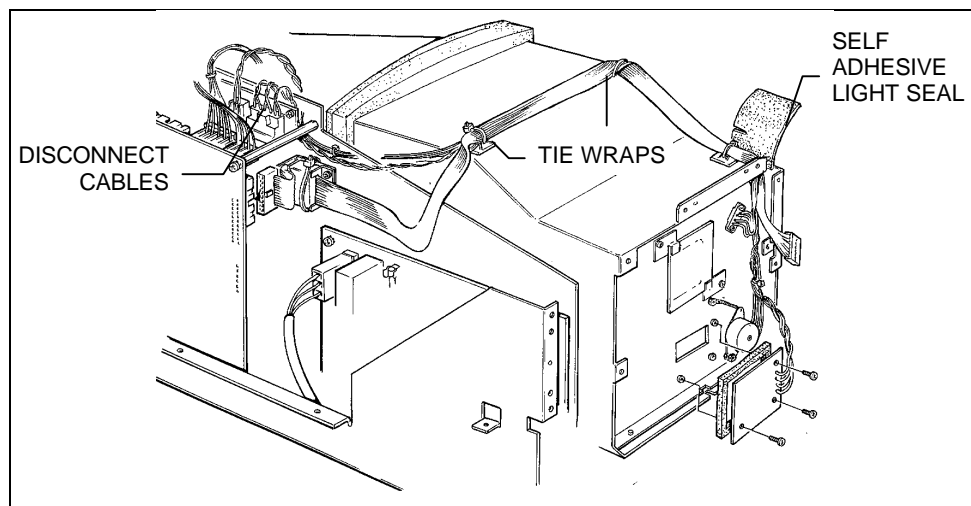

Figure 6-22. Preparing for Light Box Removal
5. Carefully peel back the self-adhesive light box seal at the top right corner of the Front Plate Assembly. Fold it back far enough to expose the cables under it. (Figure 6-22)
8. Disconnect the High Voltage Power Supply Cables (2), the Yoke Assembly Cable, and the Video Cable from the analog board.